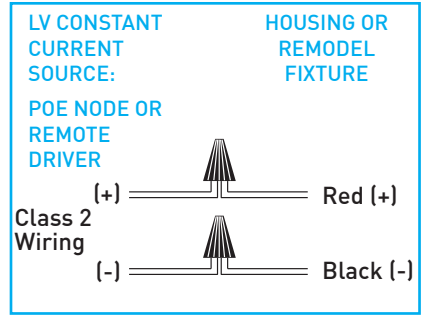

Fig. 21
Splice compartment / power supply assembly provides two (2) wires for connection to low voltage: Red (+) and Black (-) (Fig. 21).